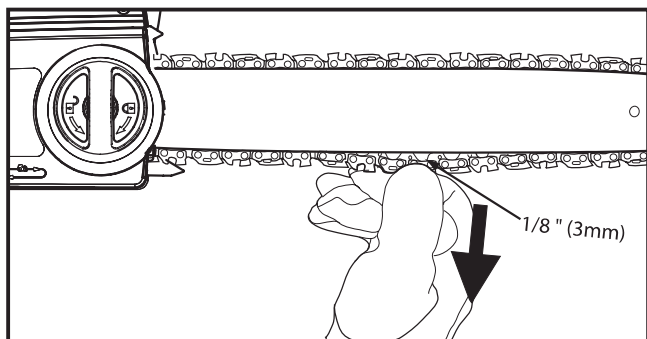

Figure 12 - Check chain tension
1. Check the chain tension by pulling the saw chain away from the guide bar. A properly tensioned chain should have roughly 1/8 inch (3 mm) of distance between itself and the bar guide (Figure 12).